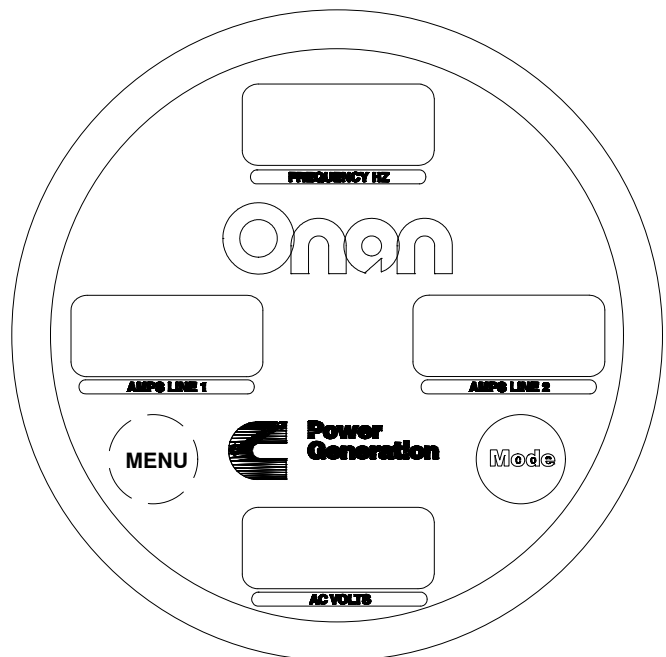

FIGURE 5-1. DISPLAY MODULE
1. Press the hidden MENU button twice and then the MODE button twice (Figure 5-1).
3. Press the hidden MENU button three times, MODE twice, and MENU once again (Figure 5-1).